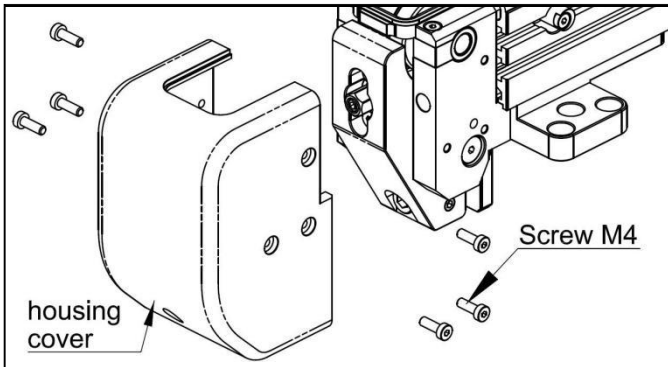

Fig. 14-5
4. As shown in Fig. 14-5, remove the six M4 screws on both sides of the housing and take off the housing cover.